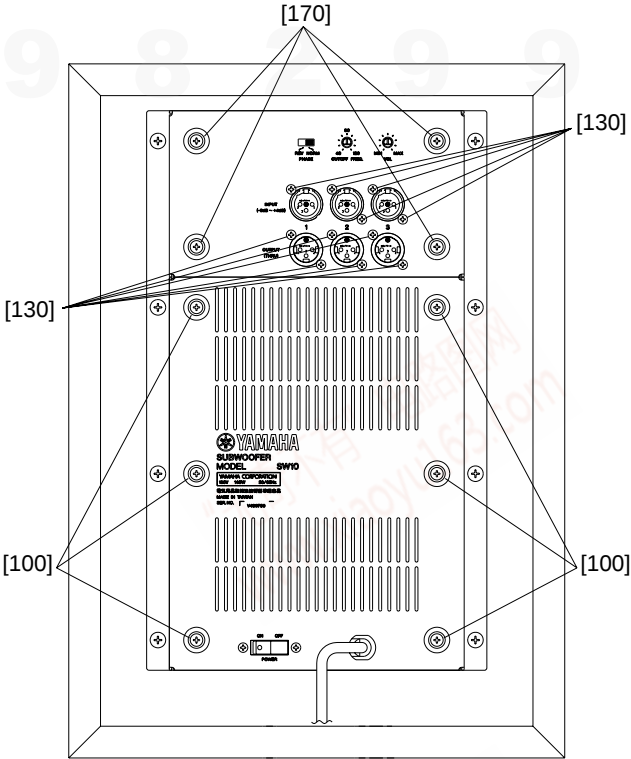

Fig.2
2-1 Remove the four (4) screws marked [170]. The control panel can then be removed. (Fig.2)
3-1 Remove the six (6) screws marked [100]. The rear panel can then be removed. (Fig.2)
5-2 Remove the twelve (12) screws marked [130]. The MAIN 1/5 circuit board can then be removed.(Fig.2)